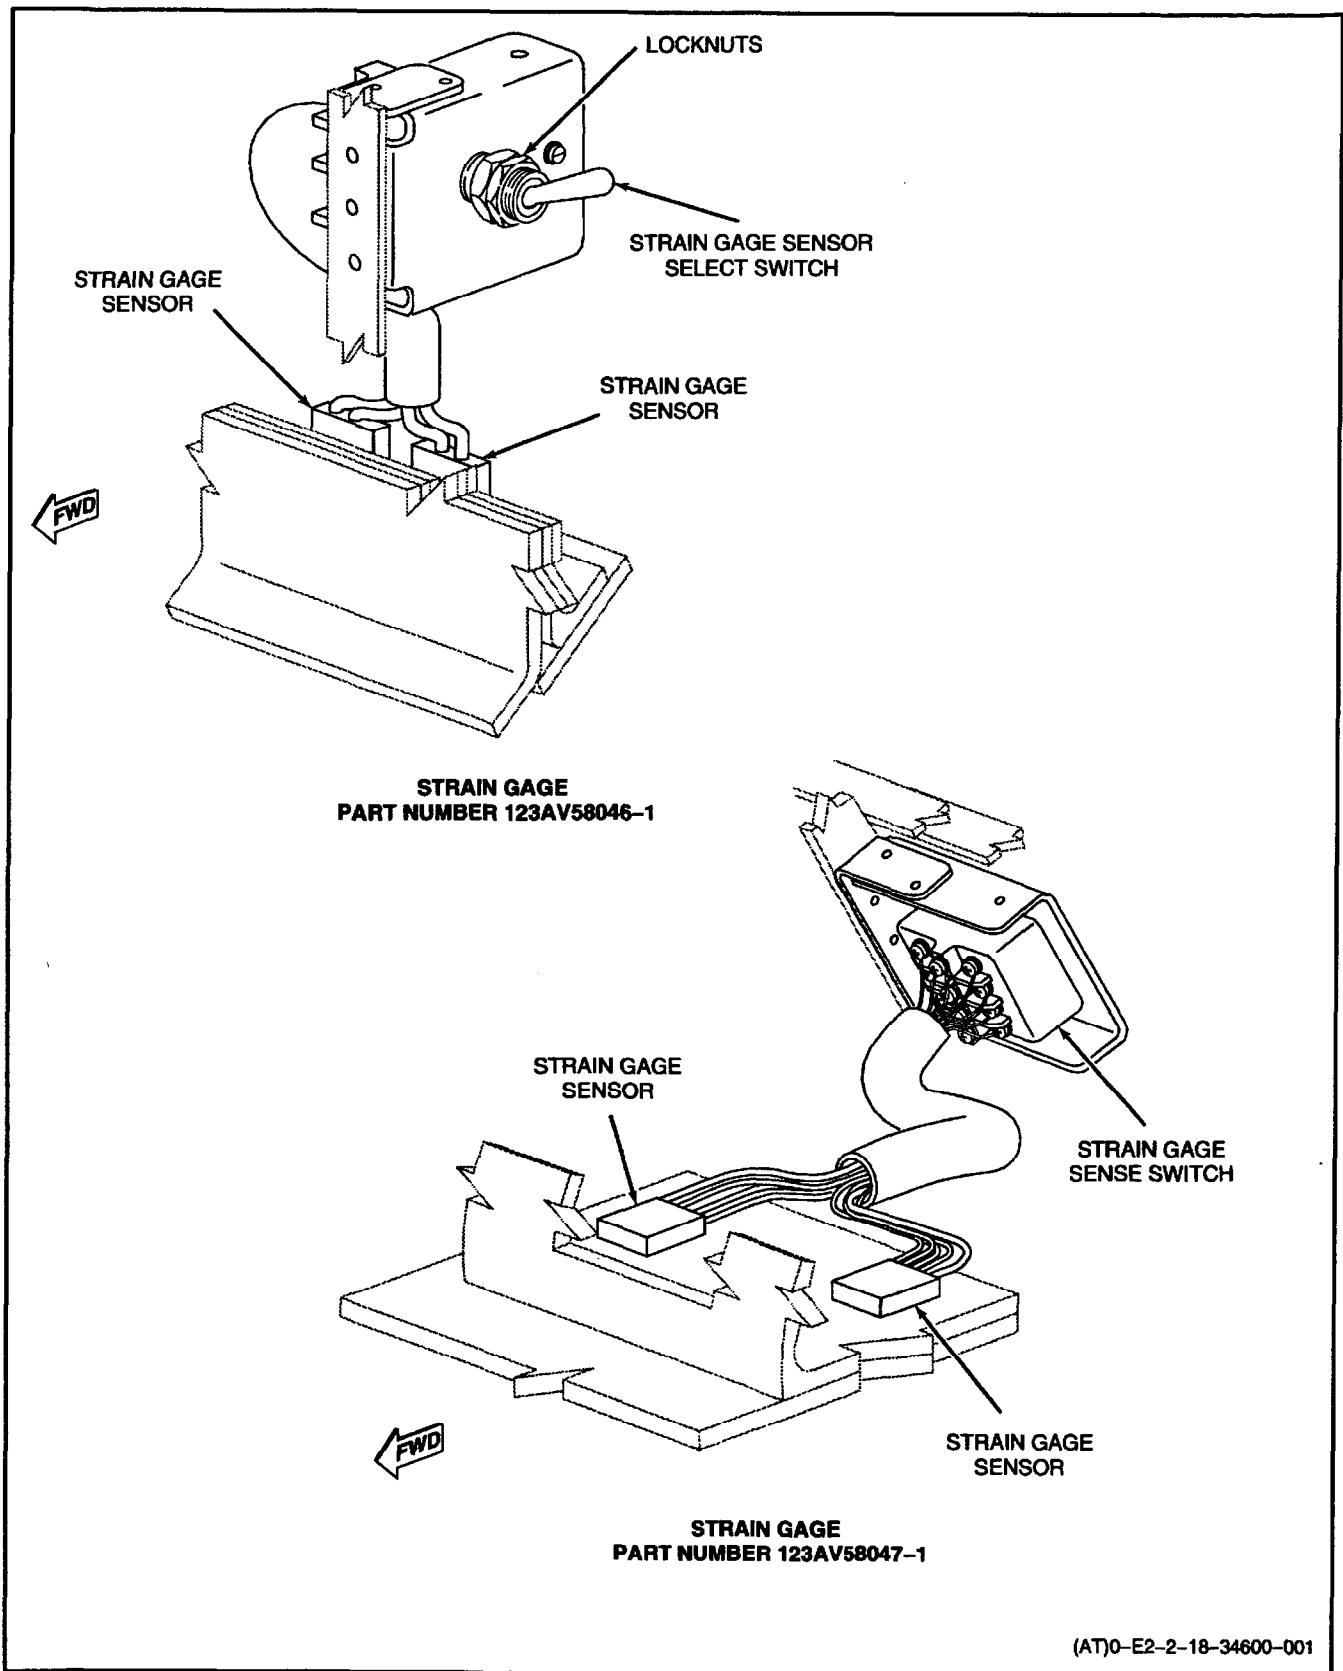

Figure 1. Removal and Installation of Strain Gage Electronic Assemblies 123AV58046-1 and 123AV58047-1
## 7. REMOVAL OF STRAIN GAGE, PART NUMBER 123AV58047-1. (Figure 1.)
11. INSTALLATION OF STRAIN GAGE, PART NUMBER 123AV58046-1. (Figure 1.)